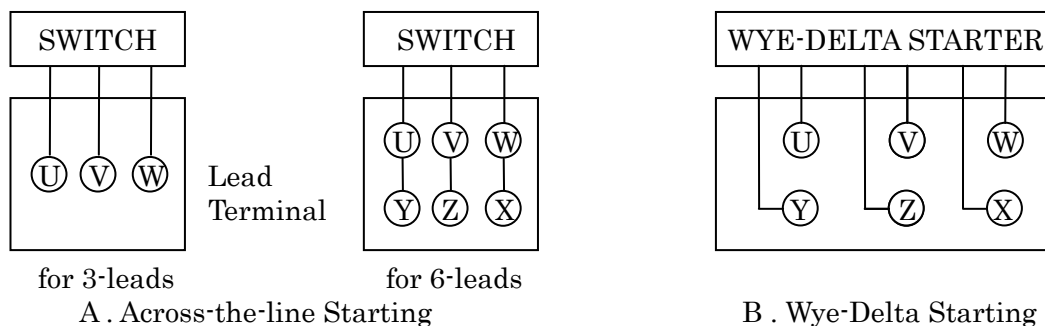

Fig. 3 Connection of lead wires
- For connection between the power cable and lead wires of motor, please refer to “Fig.3”.